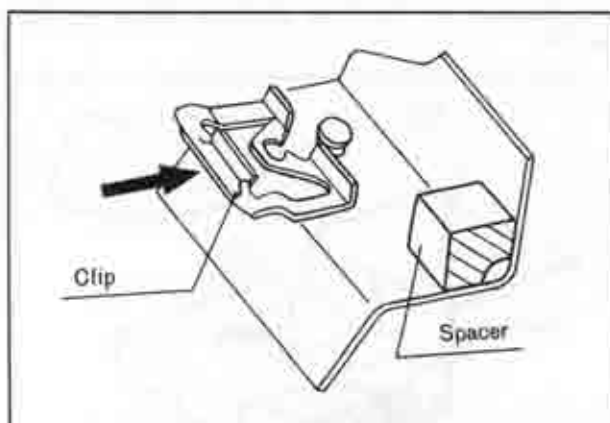

Fig. 14-32 Installing mould retaining clip
5. Insert each mould retaining clip to the clip insertion portion in the manner shown in Fig. 14-32. Replace the retaining clips as required to insure adequate mould retention.